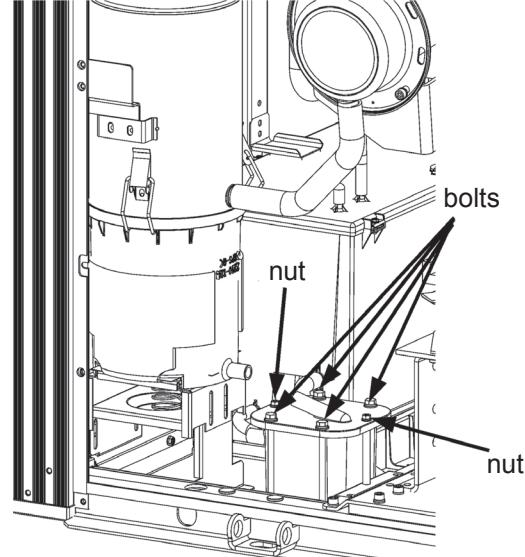

Figure 2 Removing the drain filter A
2) Remove the four bolts and two nuts in drain filter A to remove the filter from the outdoor unit. (Figure 2.)